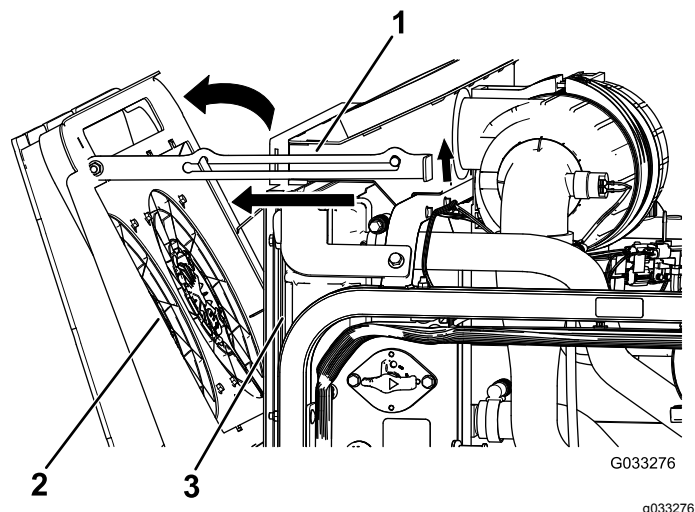

Figure 114
2. Pivot the engine-cooling fans rearward of the radiator and lock the prop rod into the notch (Figure 114).